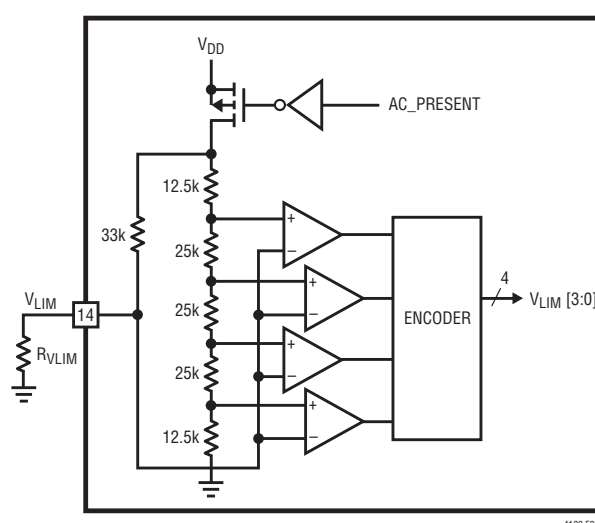

Figure 5. Simplified  $V_{\text{LIM}}$  Circuit Concept ( $I_{\text{LIM}}$  is Similar)
**Table 7.  $V_{LIM}$  Trip Points and Ranges (See Figure 5)**